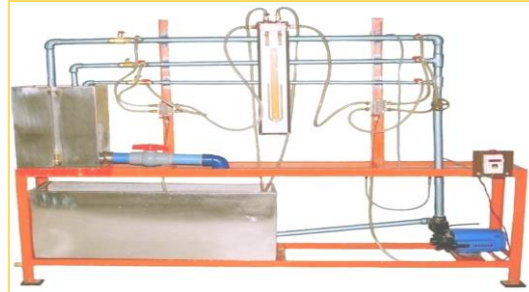

Figure 3. Flow through pipe experiment setup
- Start the pump, operate the valves as shown in figure3.